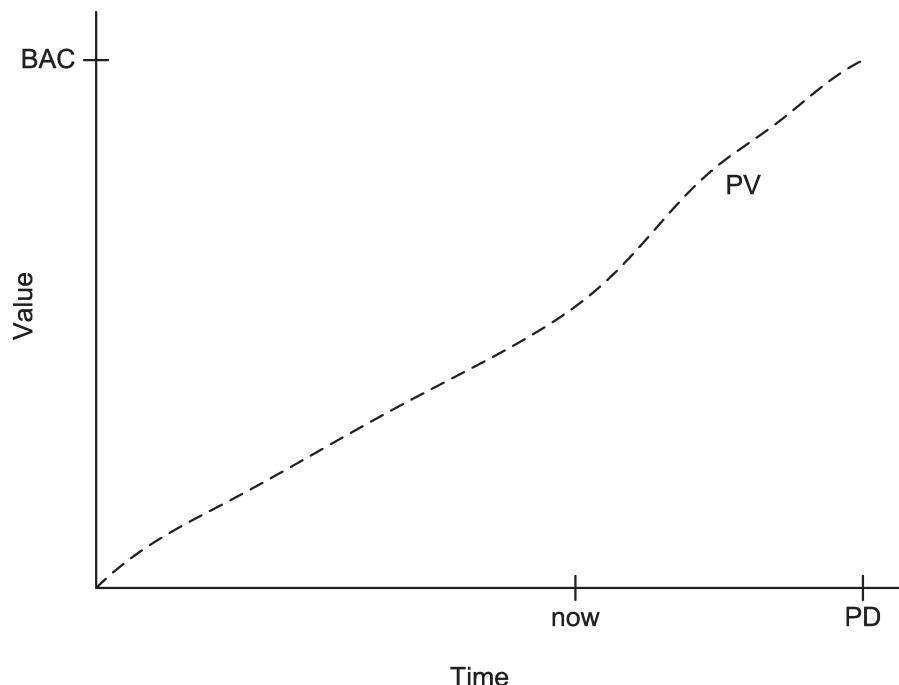

Figure 2: EVM Chart Showing PV
EVM measures **value** as either effort (such as person-days) or money (like dollars). Suppose that you have decomposed the work of a project into tasks and estimated the cost of each task (in effort or money). Each estimated task cost is the **planned value (PV)** of that task. You can also estimate duration for each task, figure out task dependencies, and use a Gantt chart of CPM to make a schedule. Then the total time for the project, called the **planned duration (PD)** of the project, is known as well. From the schedule it is not very difficult to figure out the accumulated PV of the project over time. Figure 2 below shows such a graph. The point on the Value axis where the PV line ends (at the PD of the project) is the **budget at completion (BAC)**; this is, of course, the total estimated cost of the project.
Managers can use EVM charts like the one in Figure 2 above to track whether a project is on schedule and on budget, and use FPD and EAC to make new estimates of project duration and cost. These indicators can help decide what actions to take to either bring a project back on schedule and budget (by changing scope, for example), or to revise estimates of project time and cost.